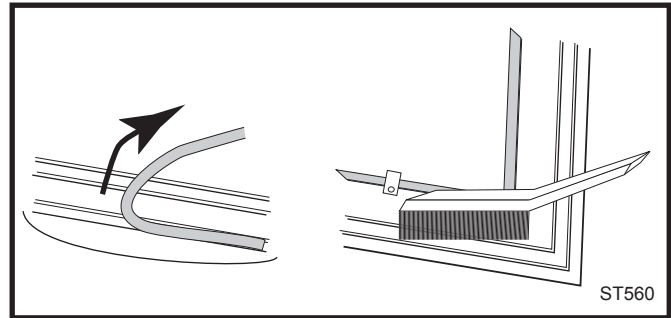

Fig. 47 Remove gasket then clean channel with wire brush.
1. Remove the existing gasket by grasping an end and pulling firmly. (Fig. 47)
2. Use a wire brush or the tip of a screwdriver to clean the channel of any remaining cement or bits of gasket. Remove stubborn deposits of cement with a cold chisel if necessary. (Fig. 47)